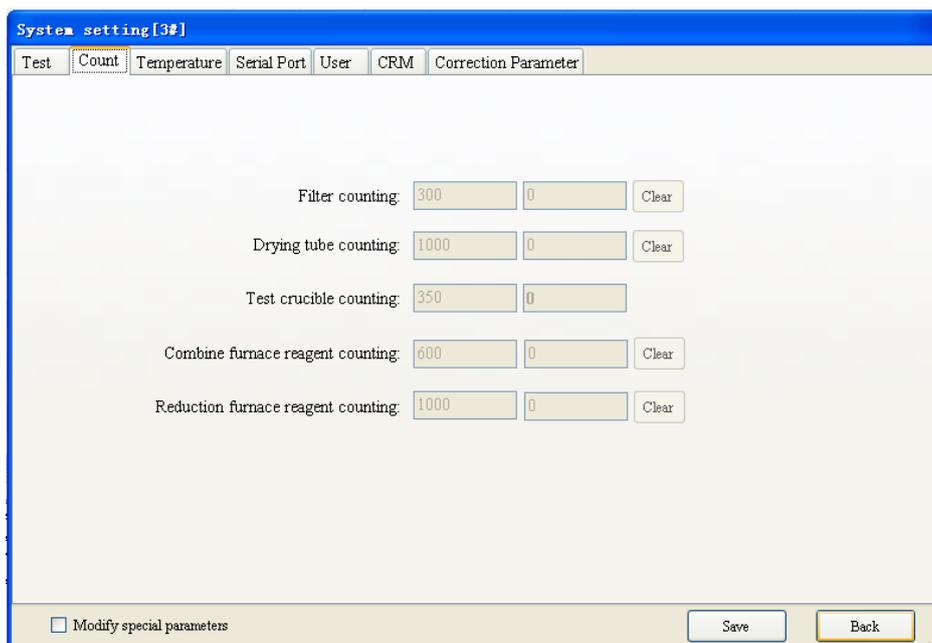

Fig4-3-3
1. Count: Click on "Count" tab in "System Setting" window, the window as Fig 4-3-3 will popup.